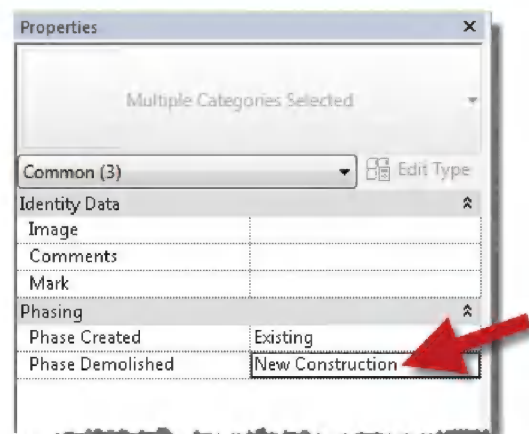

FIGURE 16-3.9
18. With the three elements selected, set the Phase Demolished to **New Construction** (Figure 16-3.9).